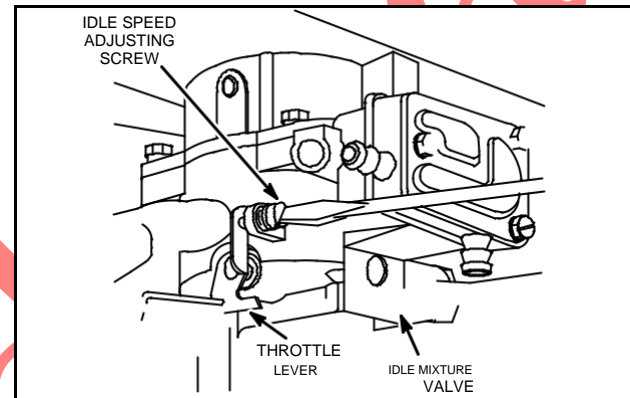

Fig. 49 – Adjust Idle Mixture
5. Turn valve back to the midpoint between rich and lean, Fig. 49.